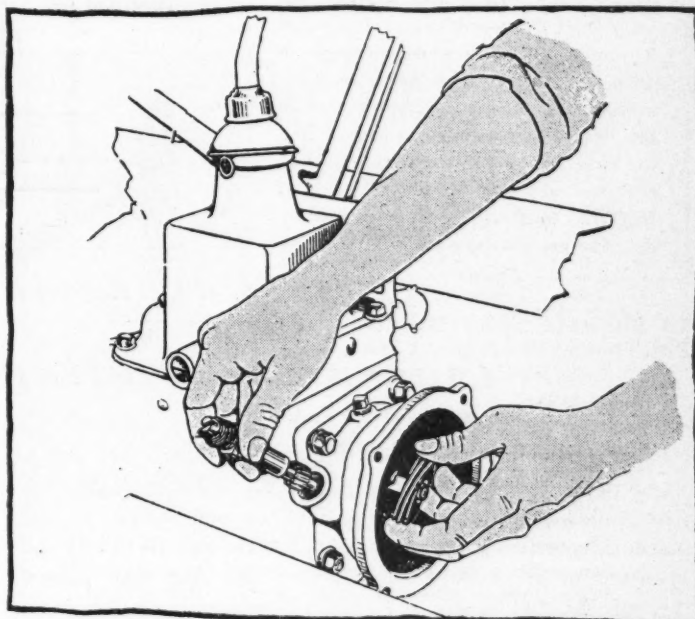

Fig. 24.—Removing speedometer drive shaft gear and worm
29. Remove speedometer gear and shaft by unscrewing nut at the top right side of the universal joint, as in Fig. 24.